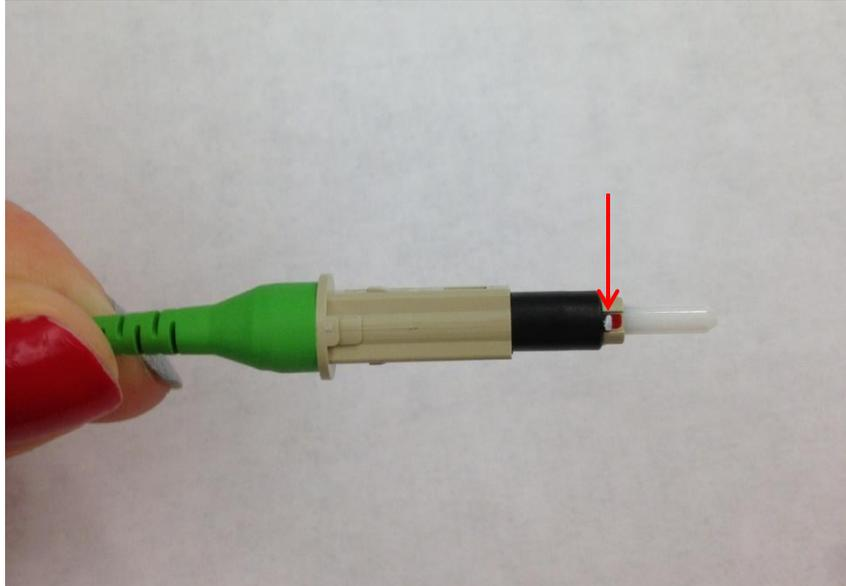

Figure 2
Step 1: Slide the boot assembly up to the ferrule. The red dot on the ferrule flange must align with the white dot on the boot unit. Make certain that the ferrule unit is seated properly in the boot unit as seen in Figure 2.